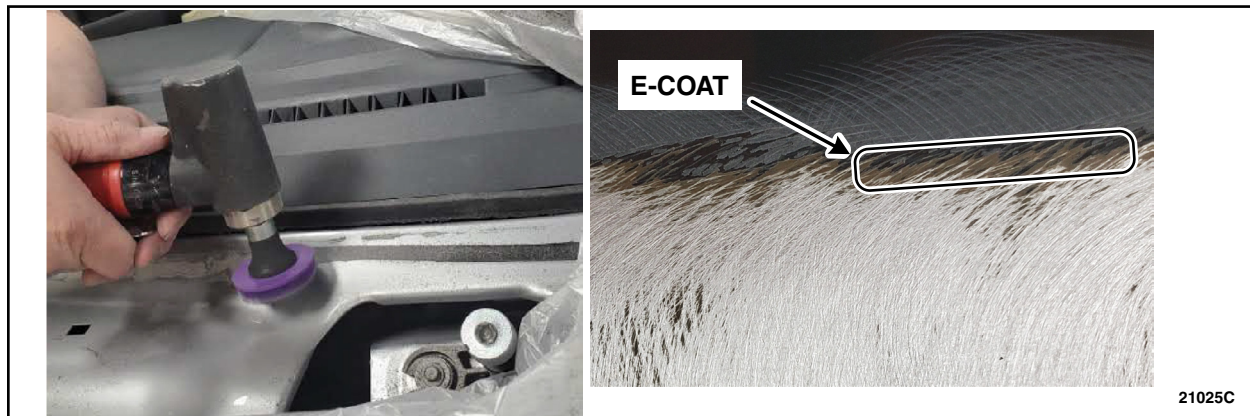

FIGURE 1
3. Using a Scotch-Brite 3M Roloc disk, remove all the urethane, clear coat, base coat, and paint primer only where the urethane will be applied around the entire window flange perimeter. The goal is to expose the e-coat without going down to bare metal. See Figure 1.